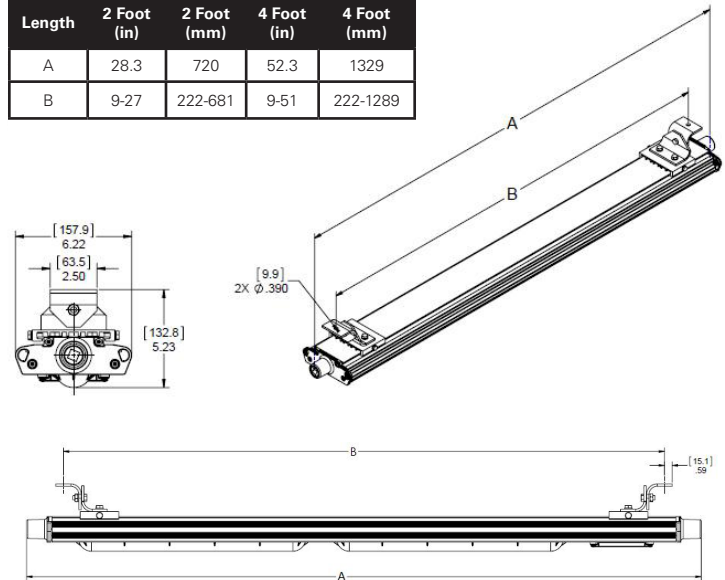

Figure 5. DP1050MTK Swivel Mount Installation
- Mark and drill holes for fastening swivel brackets. Use two (2) 1/4" bolts (not supplied) at center measurements. For swivel brackets, holes may be spaced as required. It is recommended to keep them at least 12" (305mm) apart (see Figure 5).
- Fixture is now ready for mounting. It is strongly suggested to use two (2) qualified tradespeople to proceed with the final mounting of the fixture. This is recommended to avoid any personal injury or damage to the fixture.